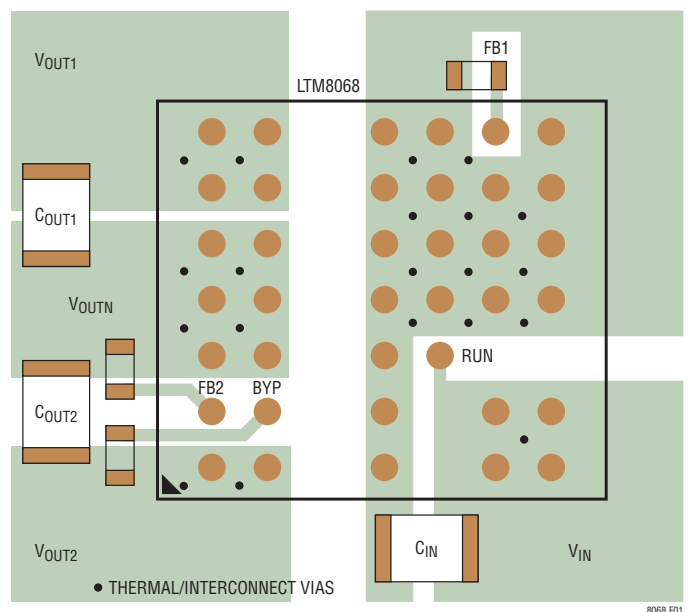

Figure 1. Layout Showing Suggested External Components, Planes and Thermal Vias
Most of the headaches associated with PCB layout have been alleviated or even eliminated by the high level of integration of the LTM8068. The LTM8068 is nevertheless a switching power supply, and care must be taken to minimize electrical noise to ensure proper operation. Even with the high level of integration, you may fail to achieve specified operation with a haphazard or poor layout. See Figure 1 for a suggested layout. Ensure that the grounding and heat sinking are acceptable.
6. Use vias to connect the GND copper area to the board's internal ground planes. Liberally distribute these GND vias to provide both a good ground connection and thermal path to the internal planes of the printed circuit board. Pay attention to the location and density of the thermal vias in Figure 1. The LTM8068 can benefit from the heat sinking afforded by vias that connect to internal GND planes at these locations, due to their proximity to internal power handling components. The optimum number of thermal vias depends upon the printed circuit board design. For example, a board might use very small via holes. It should employ more thermal vias than a board that uses larger holes.